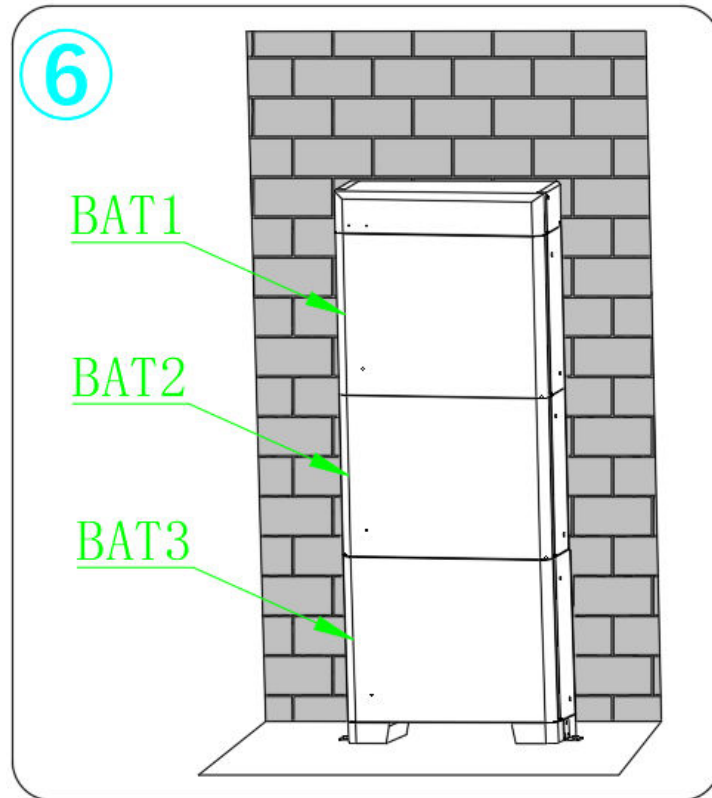

FIGURE 3.7: STEP6
- Step 6: The installation is complete, as shown in Figure 3.7.